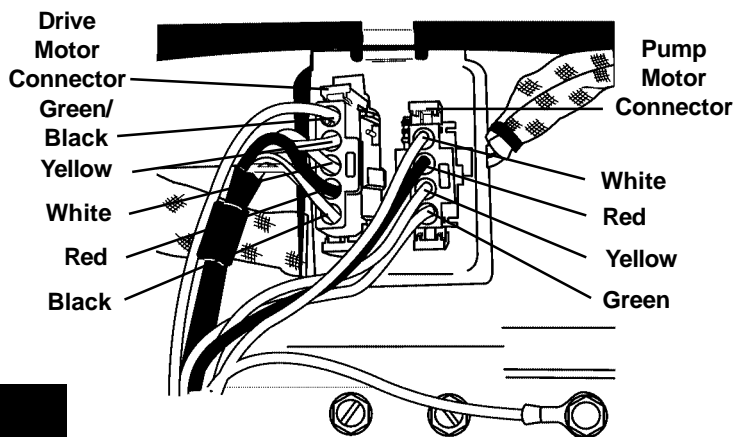

Fig. 4-4
2. Using the color codes shown in Fig. 4-4, and the resistance chart below. Check for proper winding resistances.
NOTE: Color codes shown in Fig. 4-4 are for wires from the motors to the connectors. Color codes for wires to the wiring harness plugs are different. See Section Five: TECH TIPS for complete Wiring Diagram.